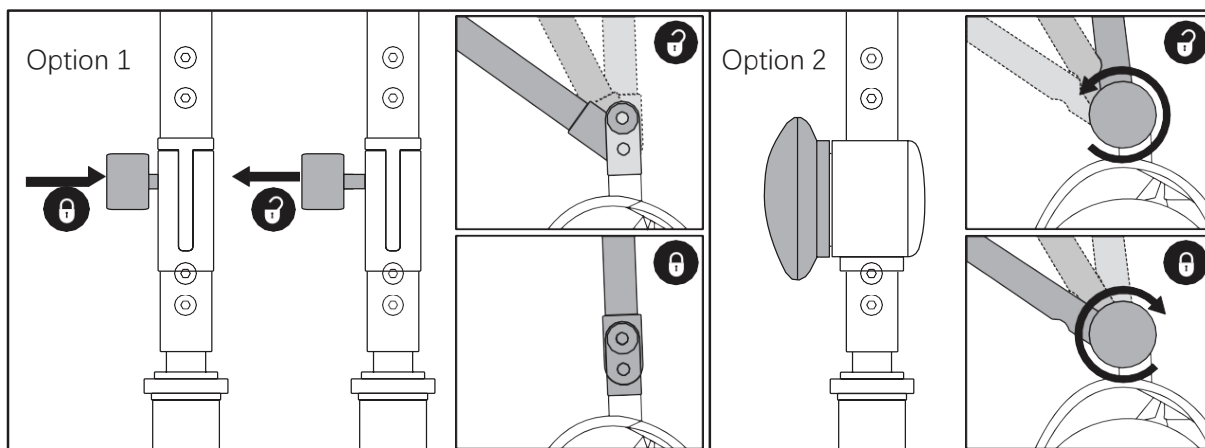

Figure 4. Tiller Adjustment Knobs
1. With the seat and battery pack removed (see Disassembly Procedures on previous page), lower the tiller and tighten the tiller adjustment knob. See Figure 4.
3. Raise the tiller and fully secure the tiller adjustment knob. See Figure 4.